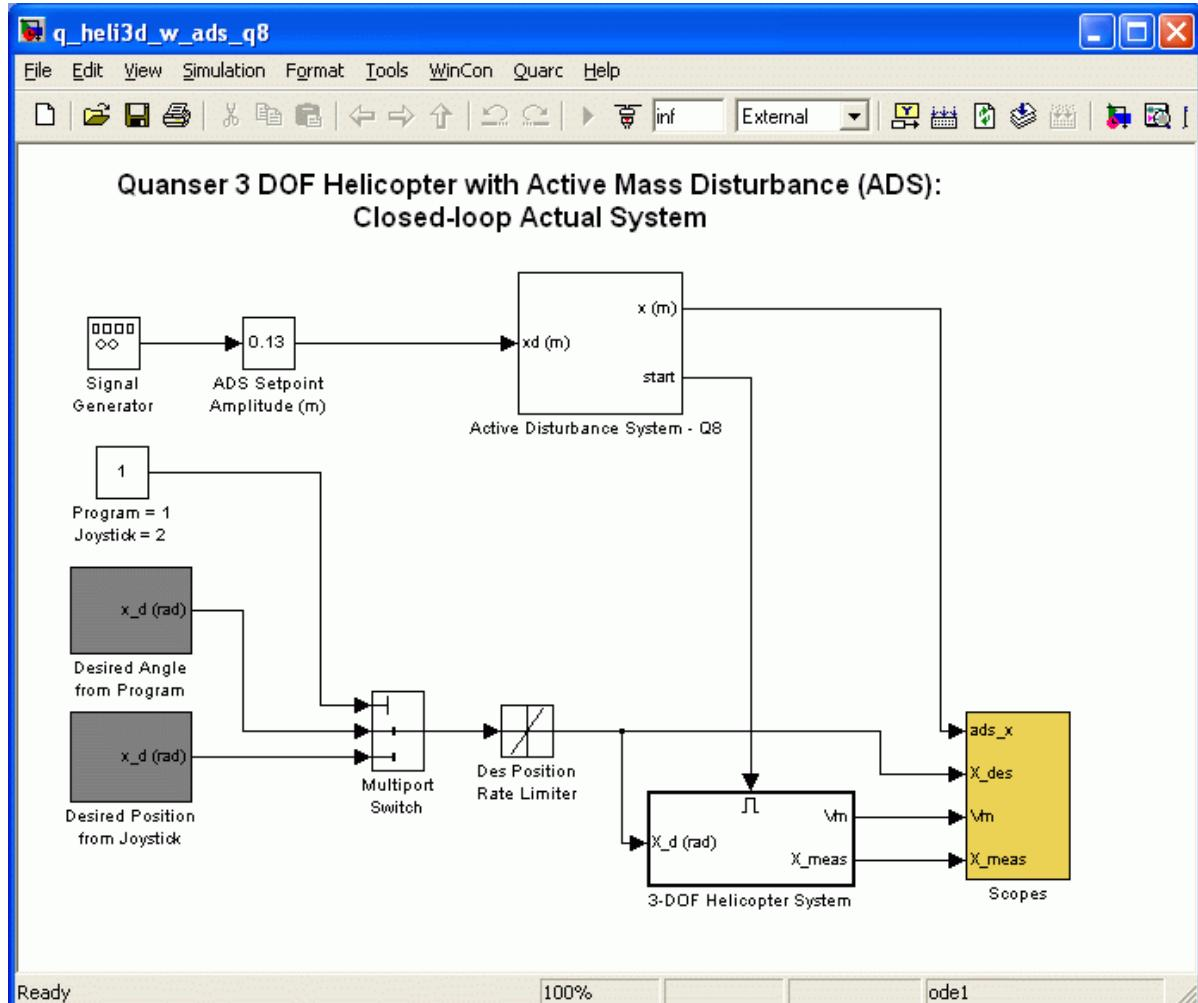
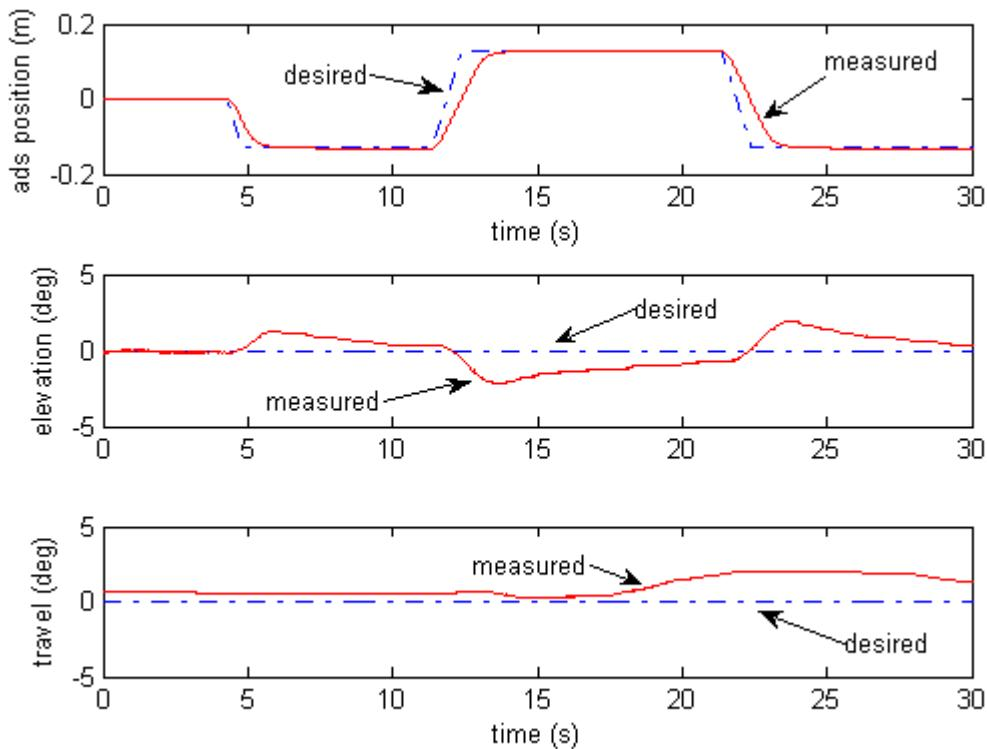

Figure 31: Simulink model *q\_heli3d\_w\_ads\_q8* implements an LQR controller on the 3-DOF Helicopter with Active Disturbance system.
Figure 32: Closed-loop response of 3-DOF Helicopter ADS device.
1. Open Simulink model *q\_heli3d\_w\_ads\_zz.mdl* shown in Figure 31 that implements a sample LQR controller on the 3-DOF Helicopter with ADS plant. The *zz* suffix denotes the type of data-acquisition board that is installed in your PC, such as *q4* or *q8*. The model runs your actual
5. Click on the *Open plot* button in the WinCon Server window and select the variables *elevation (deg)*, *travel (deg)*, and *Vm (V)* in the *Scopes* folder. These scopes display both the desired and measured angles of the Helicopter as well as the voltages being applied to the front and back motors.
8. In the *q\_heli3d\_zz* Simulink diagram, make sure the *Program/Joystick* block shown in Figure 31 is set to 1 in order to generate the desired angle from Simulink.
12. In the *Vm (V)* scope, the green line is the front motor voltage and the red trace is the back motor voltage. These should be within  $\pm 25\text{V}$  and not go negative very often.
14. Figure 32 below depicts the measured closed-loop position response of the 3-DOF Helicopter with the ADS when the disturbance mass is moving between  $\pm 0.13$  meters at 0.05 Hz.
15. Alternatively, the desired angle can be generated using a joystick - either the analog or USB described in Section 5.5. To use the joystick, set the Program/Joystick switch shown in Figure 31 to 2. The rate at which the desired angle increases or decreases given a joystick position can be changed using the K\_JOYSTICK\_X and K\_JOYSTICK\_Y variables that are set in the setup\_lab\_heli\_3d.m script file.